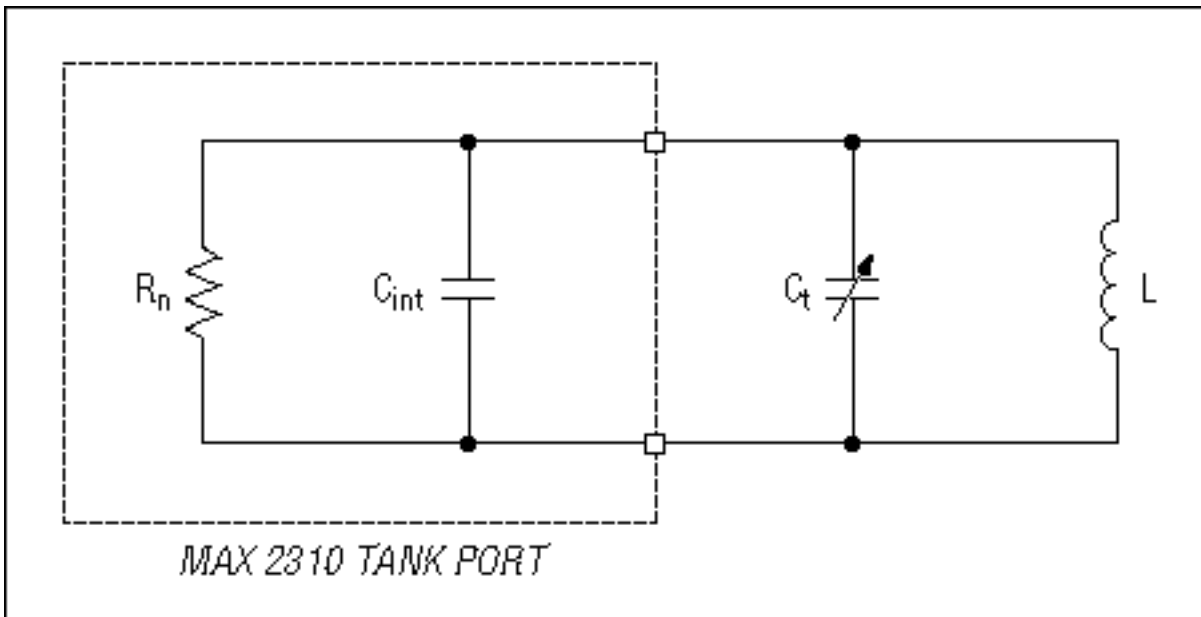
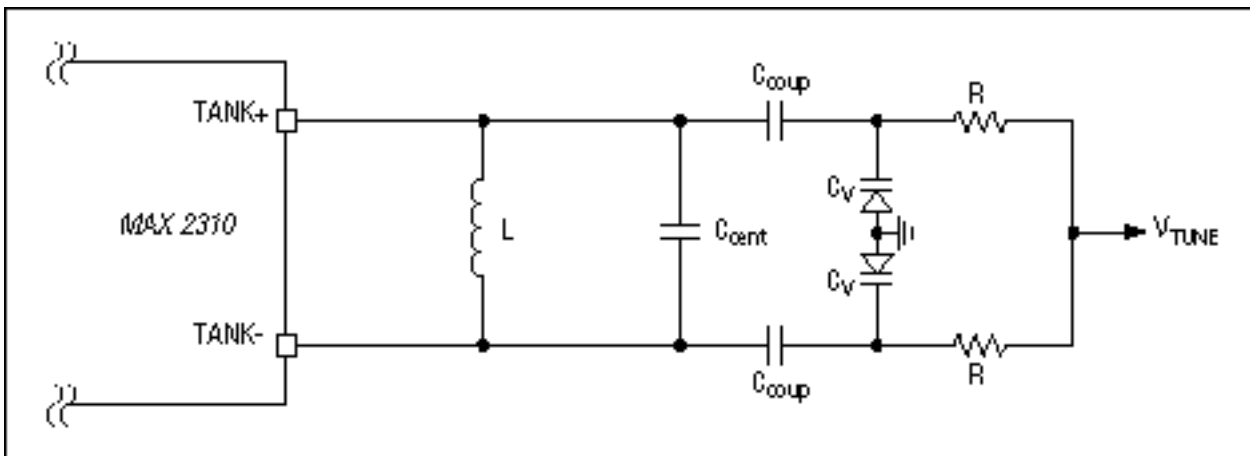

Figure 1. Basic VCO model.
Figure 2. The MAX2310 tank circuit.
Figure 2 shows the differential tank circuit used for the MAX2310 IF VCO. For analysis purposes, the tank circuit must be reduced to an equivalent simplified model. **Figure 1** depicts the basic VCO model. The frequency of oscillation can be characterized by EQN1:
Inductor L resonates with the total equivalent capacitance of the tank and the internal capacitance of the oscillator ($C_t + C_{int}$) (see Figure 1). C_{coup} provides DC block and couples the variable capacitance of the varactor diodes to the tank circuit. C_{cent} is used to center the tank's oscillation frequency to a nominal value. It is not required but adds a degree of freedom by allowing one to fine-tune resonance between inductor values. Resistors (R) provide reverse-bias voltage to the varactor diodes via the tune voltage line (V_{tune}). Their value should be chosen large enough so as not to affect loaded-tank Q but small enough so that $4kTBR$ noise is negligible. The resistors' noise voltage gets modulated by K_{VCO} , producing phase noise. Capacitance C_v is the variable tuning component in the tank. The capacitance of varactor diode (C_v) is a function of reverse-bias voltage (see Appendix A for the varactor model). V_{tune} is the tuning voltage from a phase-locked loop (PLL).
Tuning gain (K_{VCO}) must be minimized for best closed-loop phase noise. Resistors in the loop filter as well as the resistors "R" (Figure 2) will produce broadband noise. Broadband thermal noise ($V_n = \sqrt{4kTB R}$) will modulate the VCO by K_{VCO} , which is measured in MHz/V. There are two ways to minimize K_{VCO} . One is to minimize the frequency range over which the VCO must tune. The second way is to maximize the tuning voltage available. To minimize the frequency range over which the VCO must tune, tight tolerance components must be used, as will be shown. To maximize tuning voltage, a charge pump with a large compliance range is needed. This is usually accomplished by using a larger V_{CC} . The compliance range for the MAX2310 is 0.5V to $V_{CC}-0.5V$. In battery-powered applications, the compliance range is usually fixed by battery voltage or a regulator.